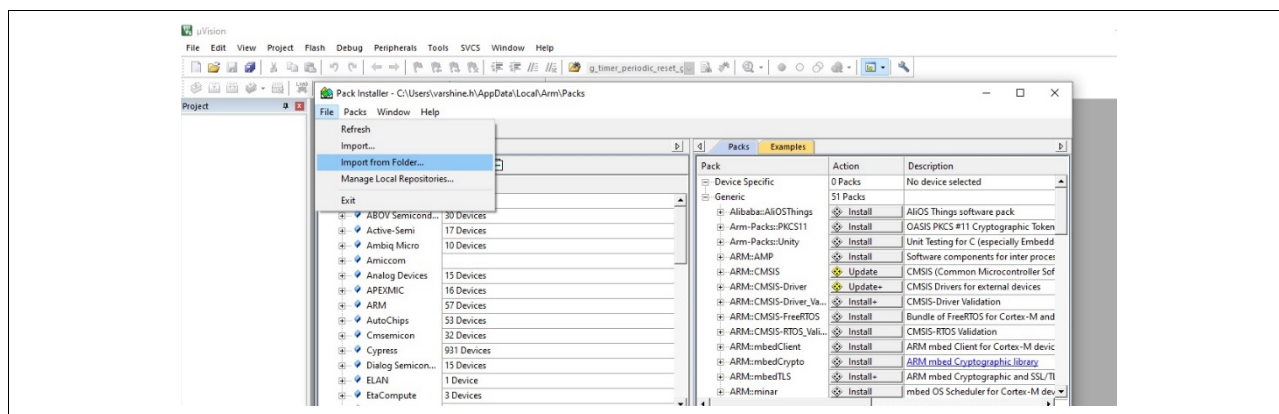

Figure 30. Import from Folder
4. Go to **File** → **Import from Folder...** as shown in Figure 30.